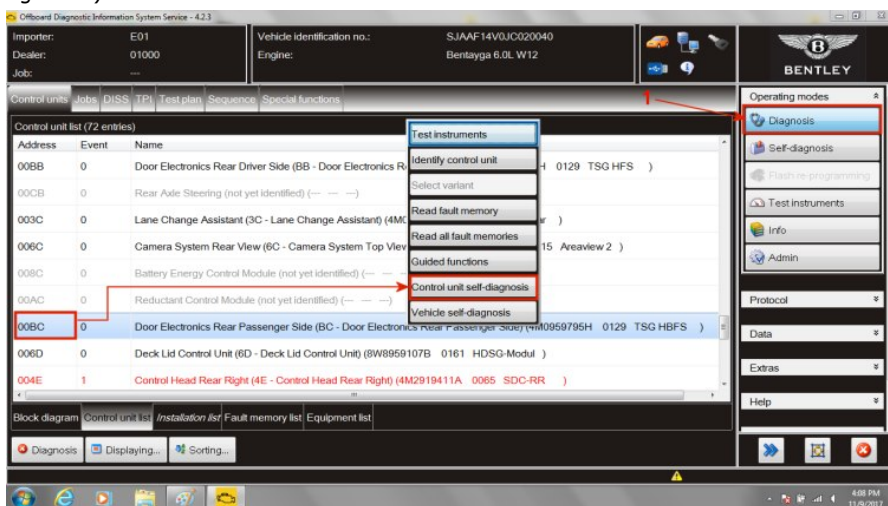

Figure 13
24. Return to *Diagnosis* (1) and select the other rear door. Within control units – Select (single touch) *00BC Door Electronics Rear Passenger Side* – Reveal drop down menu (extended touch and release). Select *Control unit self-diagnosis* (see Figure 13) and follow the same procedure 19 through 23 for this other rear door